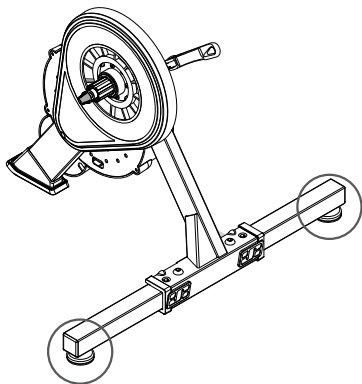

Figure 2
2. Level the trainer by adjusting the feet left to right (Figure 2)